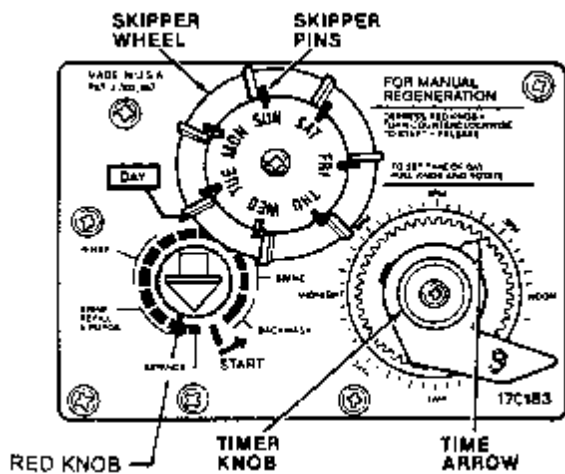

Figure 7
- Step 1: Remove valve cover by partly unscrewing the three cover securing screws and lifting the cover forward. Remove the clear plastic window in the cover by removing two screws and loosening the other two screws and sliding the window out. Replace the cover on the valve. Connect the power lead to the power point and turn on the electric power. Depress the **red knob** (*Fig. 7*) and rotate **anti-clockwise** to **backwash** position, release **red knob**. Note that the timer face design can vary between valve models from that illustrated and that the regeneration positions are indicated **pictorially** with Backwash being **Flow** shown in a **Upward direction** and the other regeneration positions shown with their corresponding flow path. Wait for valve drive to index to backwash position, (if not already in this position) that is the spindle is fully extended.
Determine a regeneration schedule for the conditioner and adjust the automatic timer as follows (Reference Figures 7 and 8):